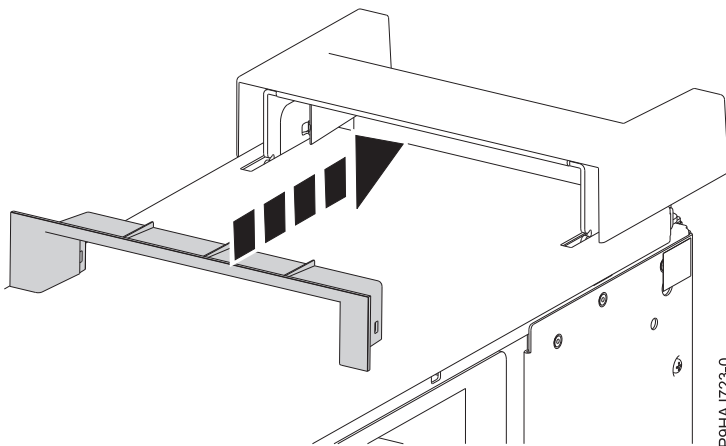

Figure 15. Inserting the piece within the handle cover
2. Insert the piece within the handle cover by pushing it firmly into the handle cover as shown in Figure 15.